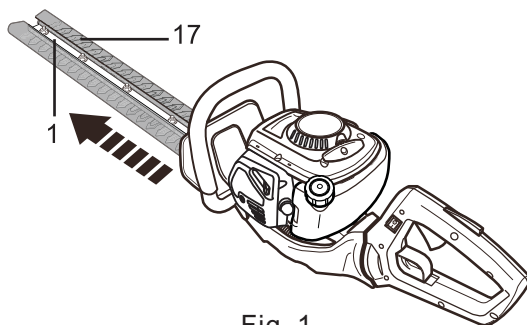

Fig. 1
- > Remove the blade cover (17) from the cutting device (1) before operation (Fig. 1).